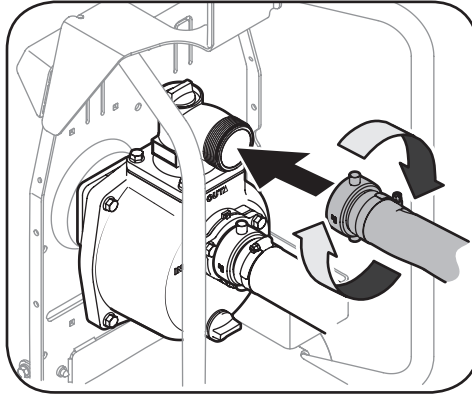

Figure 4-6
3. Connect the discharge hose to the pump discharge port. See Figure 4-6.